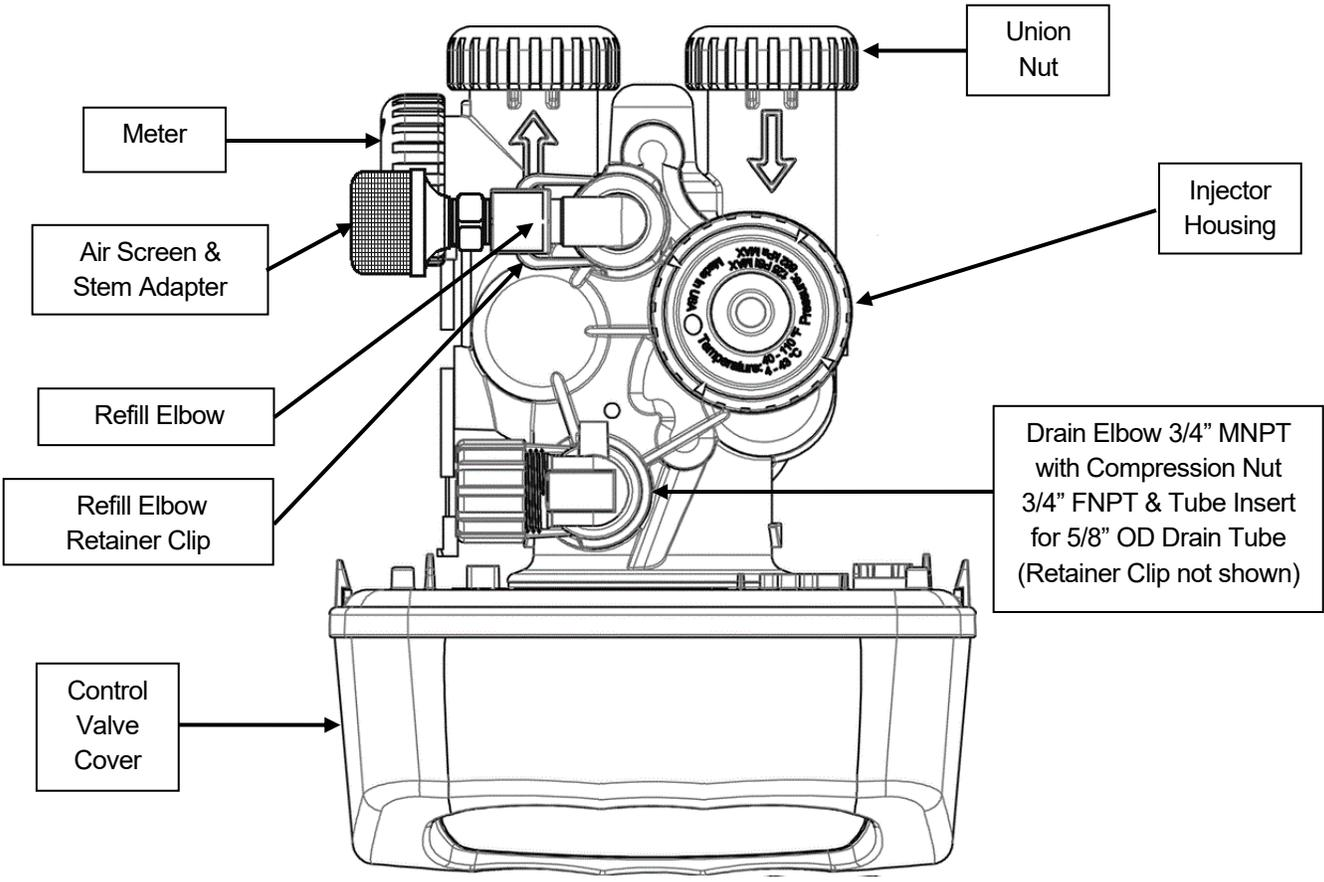

FIGURE 6b: Top View of Control Valve
- STEP 8:** **Apply thread tape to DLFC Assembly**. Remove drain line flow control (DLFC) retainer clip (Figure 6b, Page 7) and remove the DLFC assembly from the valve body, (Figure 6b, Page 7). Apply thread tape to threads. Slide drain fitting compression nut onto provided drain tubing and place the tube insert inside the end of the tubing. Insert tubing end with insert into drain elbow and tighten the compression nut onto the thread taped elbow. Reinsert DLFC assembly into the valve body, making certain it is **FULLY** inserted before replacing the retaining clip.
- STEP 9:** **Install drain line**. Use the provided ½" I.D. polyethylene tubing (**DO NOT USE FLEXIBLE VINYL TUBING!**) to run drain line from control valve DLFC fitting (Figure 6b, Page 7) to floor drain or sump pit capable of handling the backwash rate of the filter (refer to specifications and flow rate on page 17) or discard the compression fitting and use the ¾" NPT fitting to connect a rigid pipe drain line . If backwash flow rate is greater than 7.5 gpm, use existing NPT connector with rigid drain line. There must be an air gap at the end of the drain line to prevent siphoning of wastewater. Length of drain line should be 15' or less. **AVOID OVERHEAD DRAINS.**